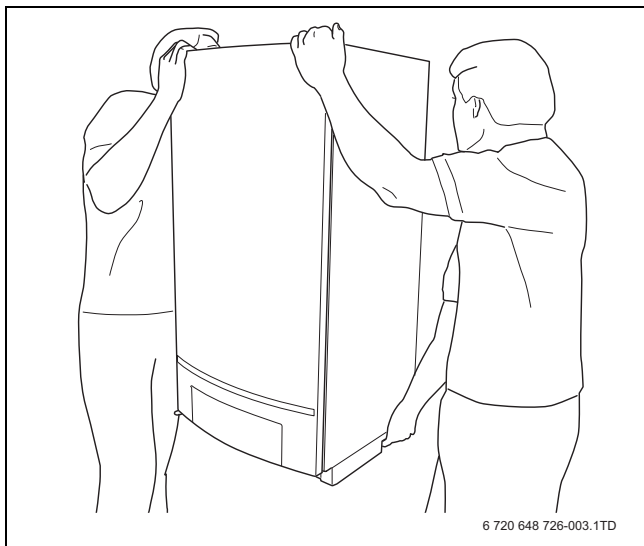

Fig. 3 Lift and carry the boiler correctly
To lift and carry the boiler, place one hand at the bottom of the boiler and the other hand on its front (→ fig. 3).
- ▶ With 2 people, lift the boiler by holding it by its back and by the transport rail at its bottom and install it on the wall bracket (→ fig. 3, page 11).